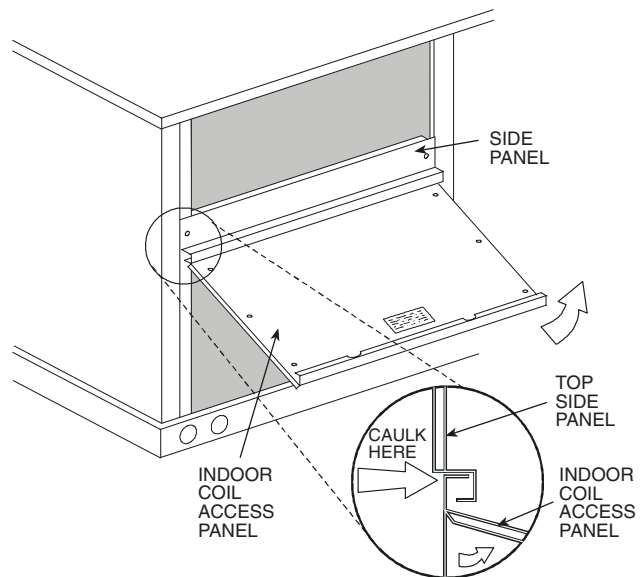

Fig. 19 — Indoor Coil Access Panel Relocation
3. The indoor coil access panel will be used as the top of the hood. Remove the screws along the bottom of the indoor coil access panel. See Fig. 19.
8. Caulk the ends of the joint between the unit top panel and the hood top. See Fig. 19.